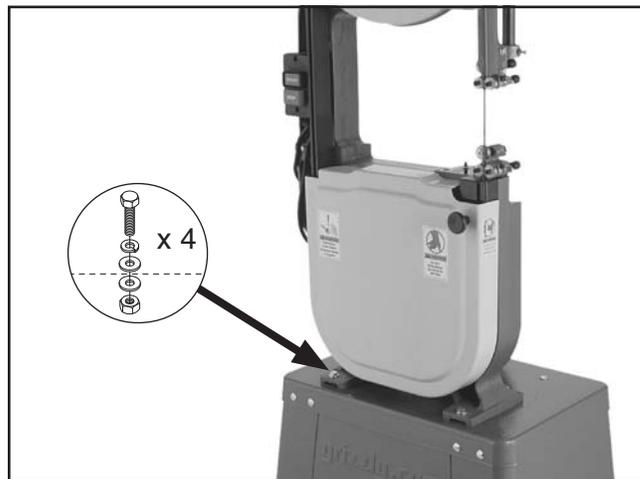

Figure 13. Bandsaw assembly attached to the stand.
- Secure the bandsaw assembly to the stand with (4) $\frac{5}{16}$ "-18 x 1 $\frac{1}{2}$ " hex bolts, (4) $\frac{5}{16}$ " lock washers, (8) $\frac{5}{16}$ " flat washers, and (4) $\frac{5}{16}$ "-18 hex nuts, as shown in **Figure 13**.